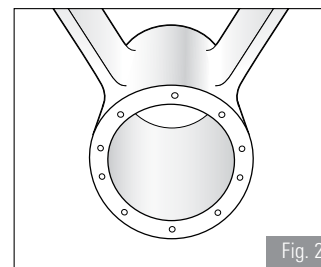

Fig. 2
2. Clean housing properly (see Fig. 2).